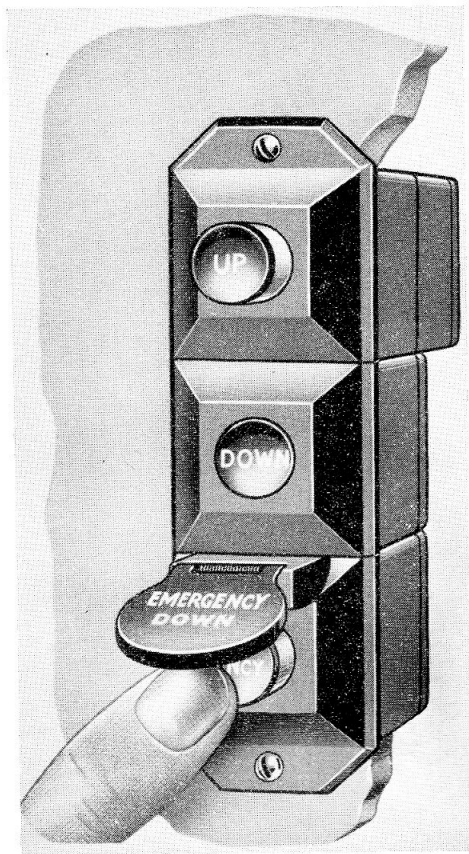

Fig. 2. General view of 1213Y, Mk. 5 switch
24. A safety flap (fig. 2) may be fitted over any button; if a more certain safeguard is needed an electrically released lock is available on any one button, preventing depression of the button under controllable conditions.